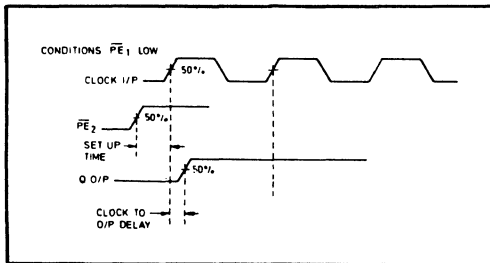

Fig. 3 Set-up timing diagram
- Set-up time is defined as the minimum time that can elapse between a L→H transition of a control input and the next L→H clock pulse transition to ensure that the ± 10 mode is forced by that clock pulse (see Fig. 3).